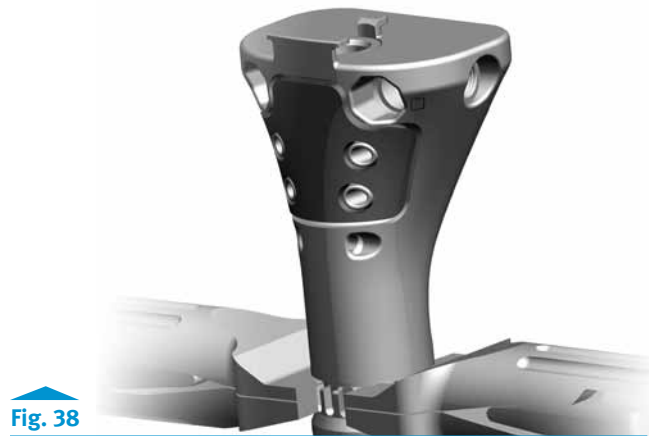

Fig. 38
*If additional force is needed to disengage the taper, use two Segmental Taper Separators, one on each side (**Fig. 38**).*